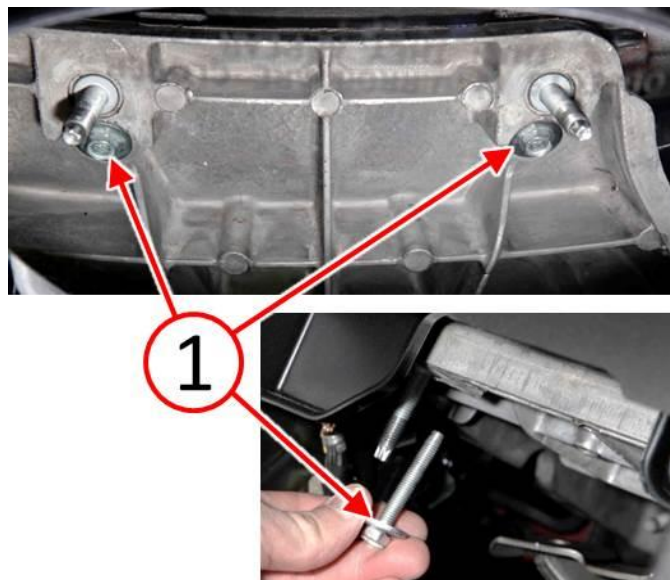

Fig. 6 Brake Pedal Bracket Mounting Bolts
13. Remove the brake pedal bracket mounting bolts (1) (Fig. 6).
14. Hand start the NEW brake pedal bracket mounting bolts (1) (Fig. 6).
15. Tighten the brake pedal bracket mounting bolts (1) to 14 N-m (10 ft. lbs.) (Fig. 6).